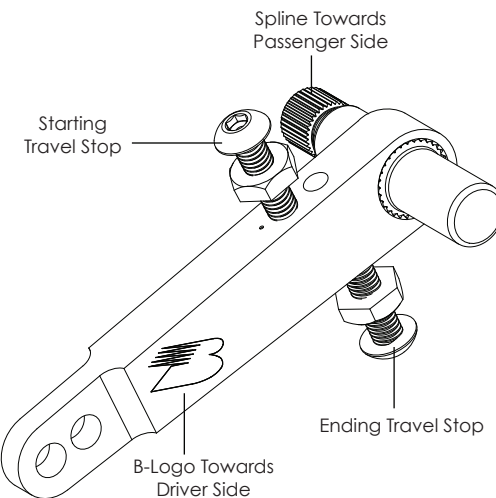

Figure 1: Cable Arm Assembly
- Pedal & cable arm angle can be adjusted after assembly by removing the spline side [A] of the pedal bracket, Fig 1. Cable arm must be at the top to ensure full travel of arm and allow for full throttle operation.